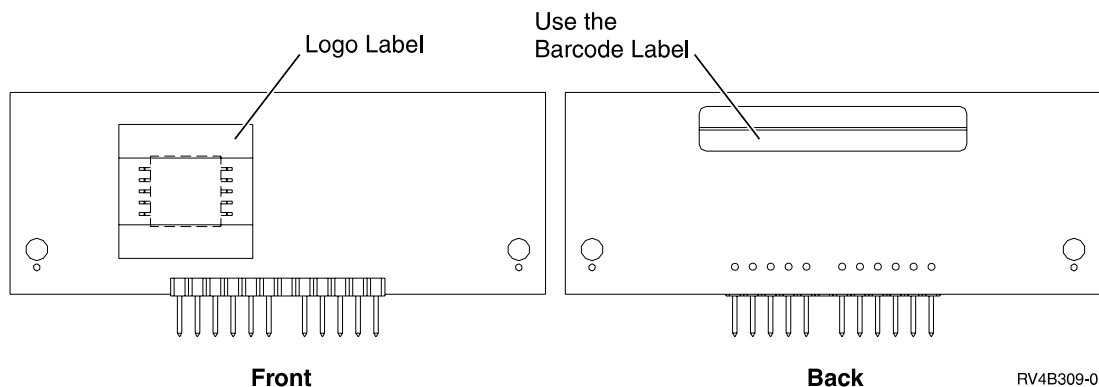

Figure 68. Interactive Card
- 1) Read the logo label that is covering a module on the front of the interactive card that you removed from the system (this label is square with an IBM logo on it.) See Figure 68.